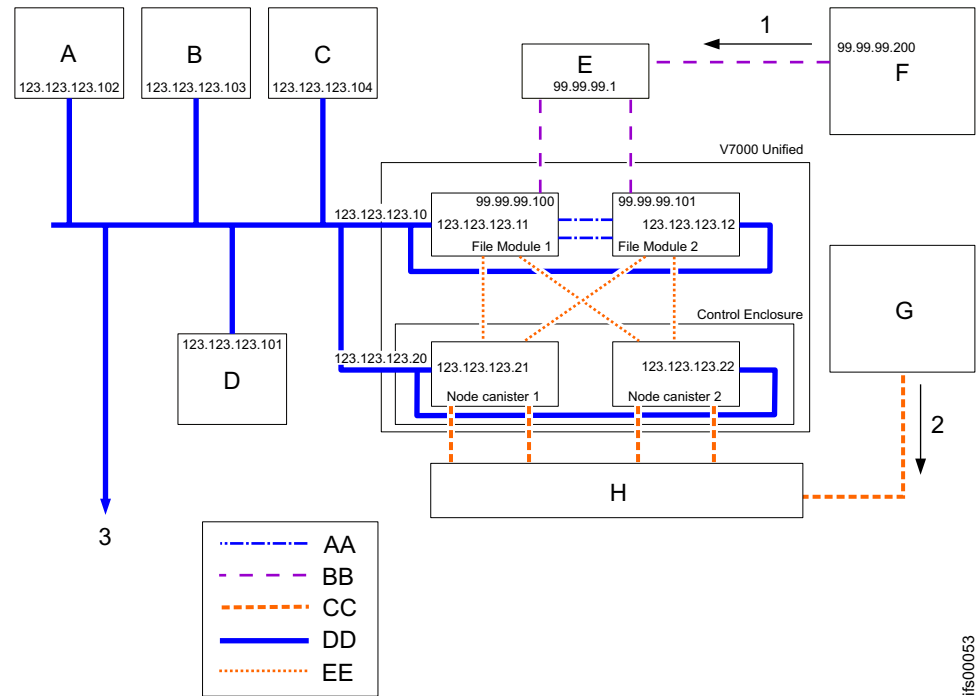

Figure 16. Here are examples of IP addresses, machine names, and so forth. The expansion enclosures are not shown.
**Note:** The example addresses in this table match the ones given on Figure 16 on page 45.